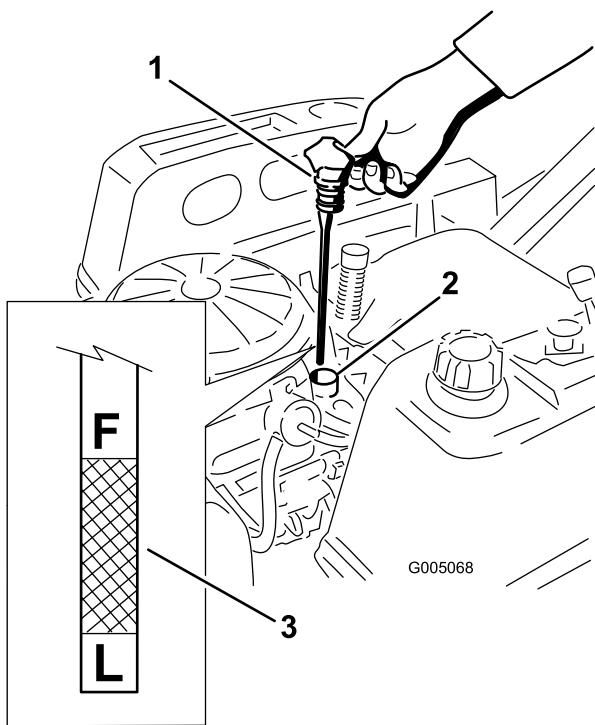

Figure 32
5. Insert the dipstick and push firmly into place (Figure 32).
- 6. Remove the dipstick and check the oil level (Figure 32).
9. Remove the oil-fill cap and dipstick (Figure 32).
19. Slowly pour approximately 80% of the specified oil into the filler tube (Figure 32).
20. Install the oil-fill cap and dipstick, and push it firmly into place (Figure 32).
21. Check the oil level (Figure 32); refer to Checking the Engine-oil Level (page 28).
23. Install the oil-fill cap and dipstick, and push it firmly into place (Figure 32).